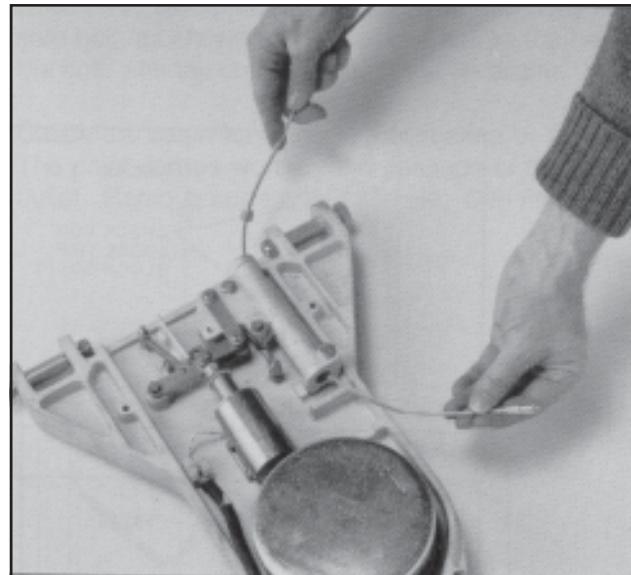

Fig. 24: Pass trip line through hole in trip block.
5) Pass the trip line through the hole in the trip block as shown in Fig. 24.